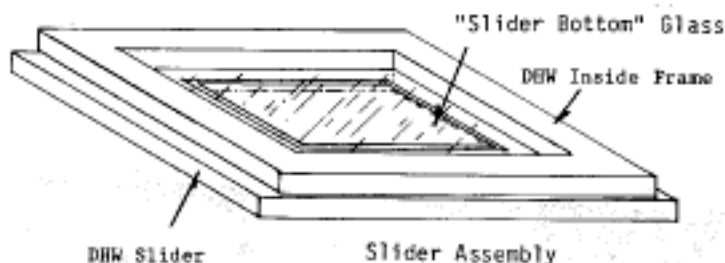

Figure 16
4. Assemble Double Hung Window assembly as in Figure 16. Lay the inside frame on the table with the good side down. Run a thin bead of glue around the opening. Spread glue evenly. Place the glass on the glue. Press glass down with a pencil. Run another bead of glue on the glass and spread evenly, be careful not to get glue on the part of the glass that will be seen. Place the slider on the inside frame on the inside frame with the good side up. Be sure it is centered. There should be 1/8" of slider overhanging each side of the inside frame. Figure 16.